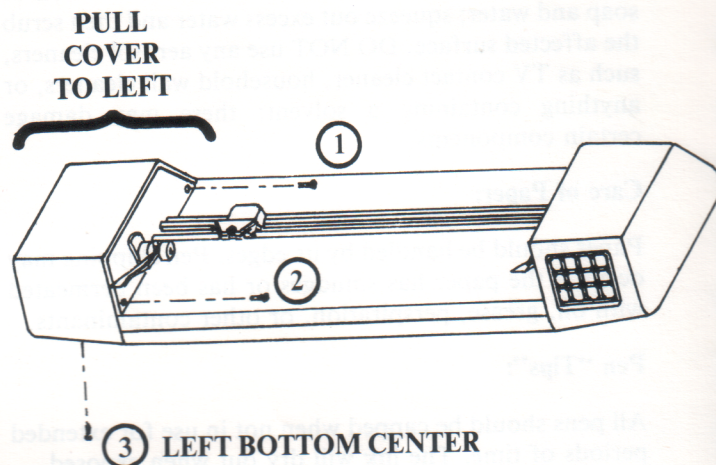

FIGURE 4-2
2. Remove the left end cover by loosening the three screws shown in Figure 4-2.